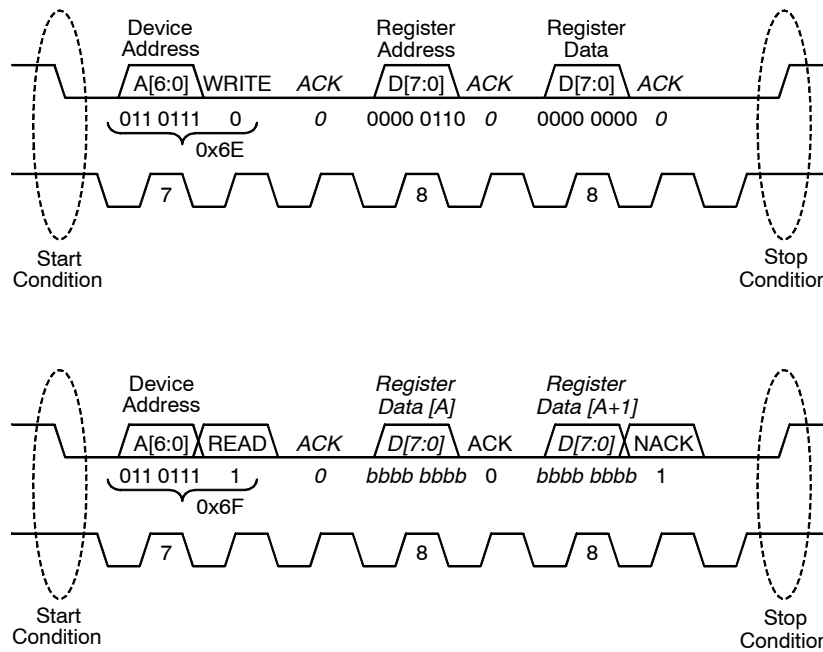

Figure 22. I²C Read Command
Figure 22 shows an I²C read command sent by the master to the slave device. Read transactions begin in much the same manner as the write transactions in that the slave address must be sent with a write(0) command bit.